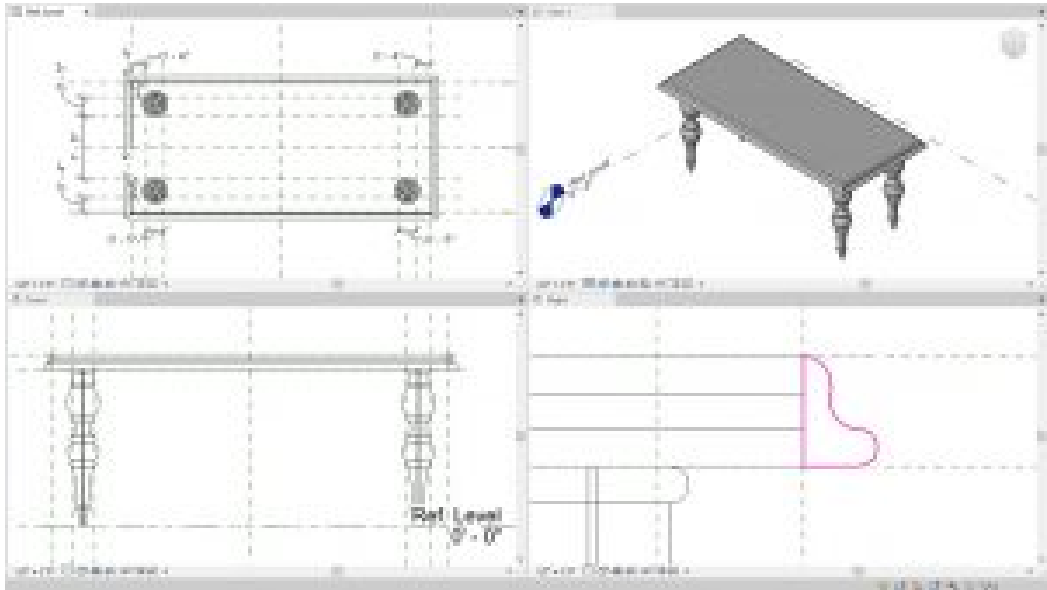

Figure 5.9 Table edge sketch sweep
10. In the Right view, draw the profile like the one shown in Figure 5.9